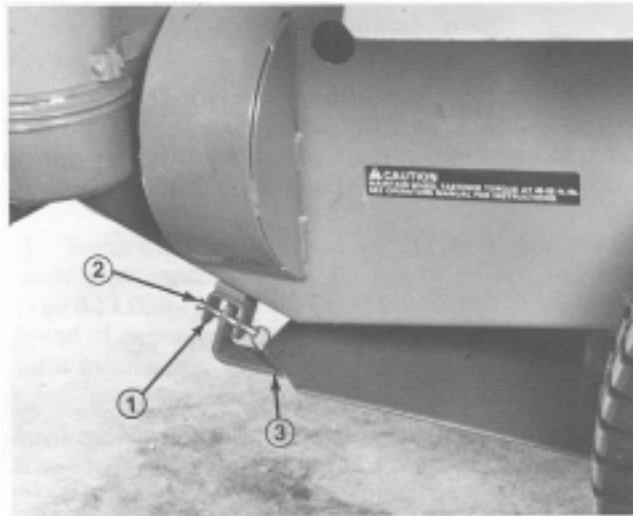

Figure 7
- Raise rear of Belly Shield and secure to Belly Shield hangers with a clevis pin and hairpin cotter on each side (Fig. 7). Push hairpin cotter all the way to loop, to prevent loss.